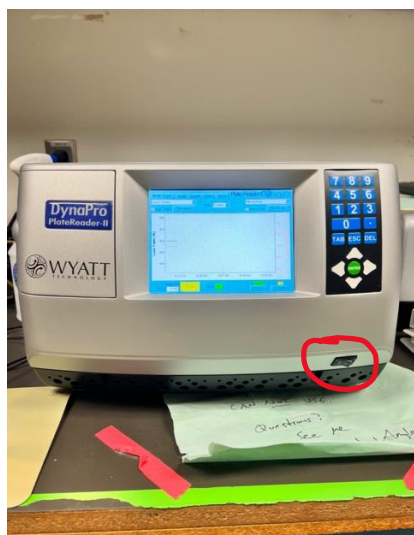

Fig 1 DLS instrument. Red circle is the switch to turn on the instrument.
4. Turn on the instrument as soon as you get into the room (it takes about 15 min for the laser to warm up). The switch is on the bottom right of the instrument *Fig 1*.